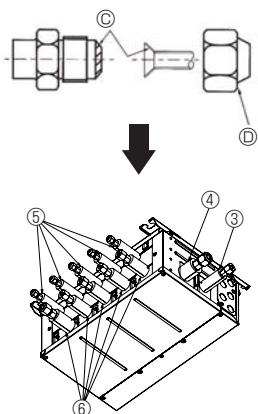

Fig. 7-2
- ① Apply refrigeration oil to the entire (Fig. 7-2) surface of the flared seat.
- ② Basically use flared nuts fitted to the body (commercially available flared nuts may crack).